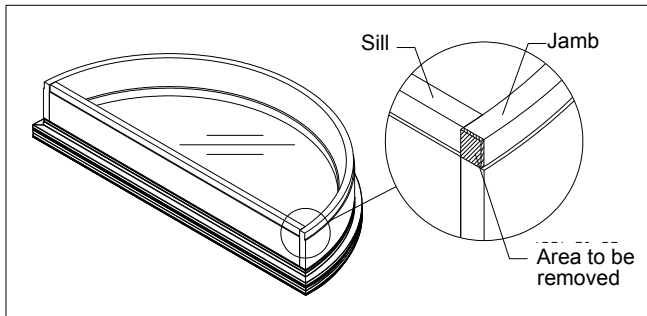

Figure 29
1. Lay frames on a flat surface in the desired mulling configuration (interior facing up). Removing nailing fin/drip cap and any shipping blocks from mullion locations. Using a wood saw cut the ends of the jambs on the ELALDGRT so that it is flush with the sill. See figure 29.